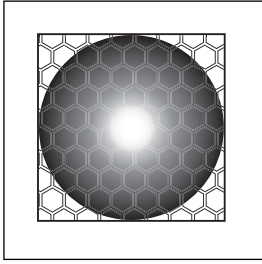

Fig 15
- red LED flashes = beam is moving from the shaded area (see Fig 15) to the centre of the reflector